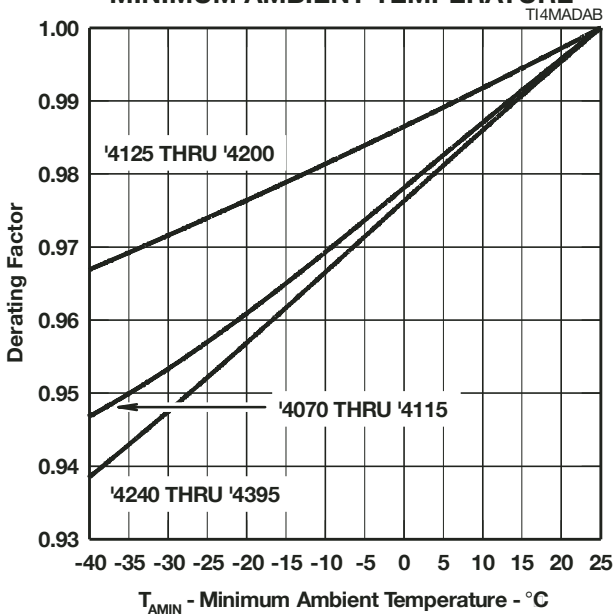

Figure 10.
- NOTES: 1. See Applications Information and Figure 10 for voltage values at lower temperatures.
Figure 10 allows the calculation of the protector V_{DRM} value at temperatures below 25 °C. The calculated value should not be less than the maximum normal system voltages. The TISP4265M3AJ, with a V_{DRM} of 200 V, can be used for the protection of ring generators producing 100 V rms of ring on a battery voltage of -58 V (Th2 and Th3 in Figure 17). The peak ring voltage will be $58 + 1.414 \times 100 = 199.4$ V. However, this is the open circuit voltage and the connection of the line and its equipment will reduce the peak voltage. In the extreme case of an unconnected line, clipping the peak voltage to 190 V should not activate the ring trip. This level of clipping would occur at the temperature when the V_{DRM} has reduced to $190/200 = 0.95$ of its 25 °C value. Figure 10 shows that this condition will occur at an ambient temperature of -28 °C. In this example, the TISP4265M3AJ will allow normal equipment operation provided that the minimum expected ambient temperature does not fall below -28 °C.